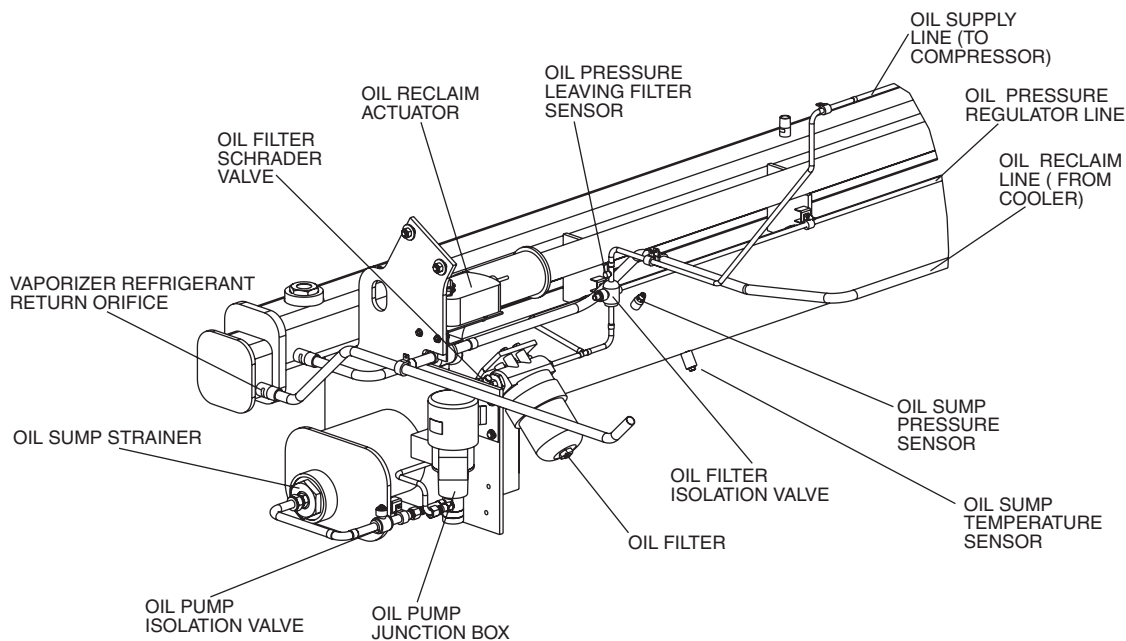

Fig. 56 — Oil Sump Strainer and Filter
2. Close both oil filter isolation valves. See Fig. 56.
Oil Strainers — The oil reclaim system has two strainers. One is installed in the VFD refrigerant cooling line between the cooler and condenser. The second strainer is located in the oil sump strainer housing (see Fig. 56). The oil sump strainer must
Vaporizer Refrigerant Return Line Orifice — There is a metering orifice where the refrigerant return line attaches to the vaporizer (see Fig. 56). This orifice can only be inspected by cutting the vaporizer refrigerant return line near the vaporizer. This orifice should be inspected if hot condenser gas flow through the vaporizer appears to be obstructed.